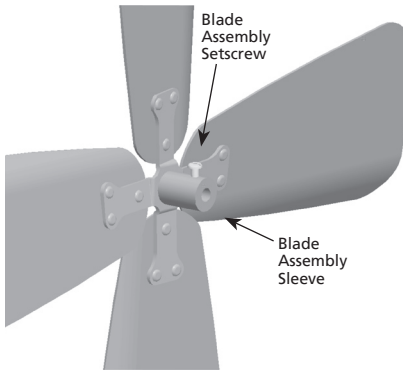

FIGURE 9
22. Loosen the Blade Assembly Setscrew so that it does not protrude into the inside of the Blade Assembly Sleeve. See Figure 9.